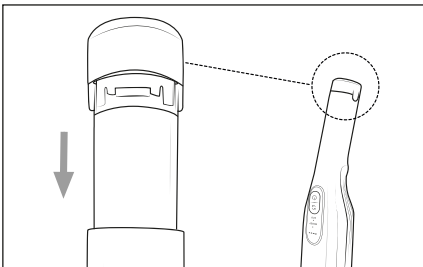

Fig. 3
- 3) Push the battery 1 into the appliance until it sits firmly (see Fig. 3).